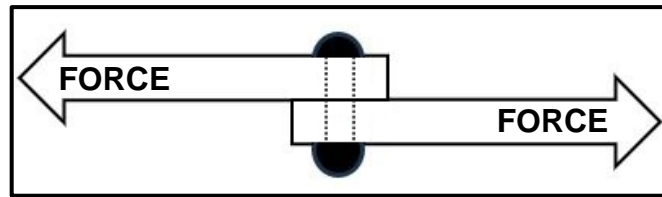

FIGURE 4.8
- (1)
4.8 Describe the type of stress in a rivet that is caused by the forces shown in FIGURE 4.8 below.